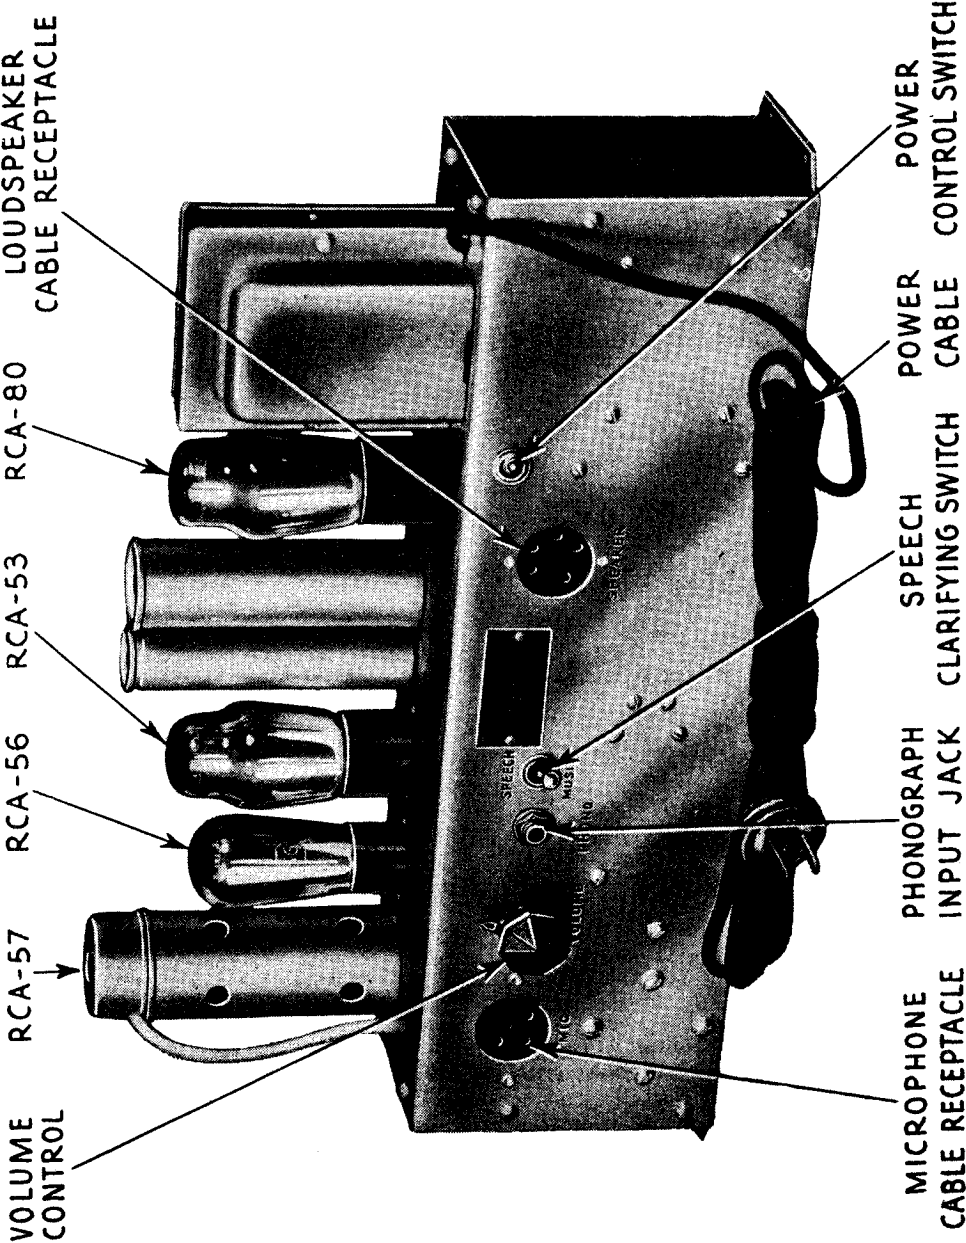

Figure 2—View of Amplifier Showing Parts
All controls are mounted on the amplifier base and are easily accessible to the operator. The controls consist of the power control switch, speech clarifying switch and the volume control knob. Figure 2 shows the locations of these controls.
- That all Radiotrons are in their proper sockets and pressed down firmly. Never apply power to the instrument unless all Radiotrons are in place. Figure 2 shows the proper Radiotron locations.
1. Insert the Radiotrons in the sockets as shown in Figure 2.
- (a) That all Radiotrons are in their proper sockets and pressed down firmly. Never apply power to the instrument unless all Radiotrons are in place. Figure 2 shows the proper Radiotron locations.
After the equipment has been properly located and connected, it may be operated in the following manner: (Refer to Figure 2.)